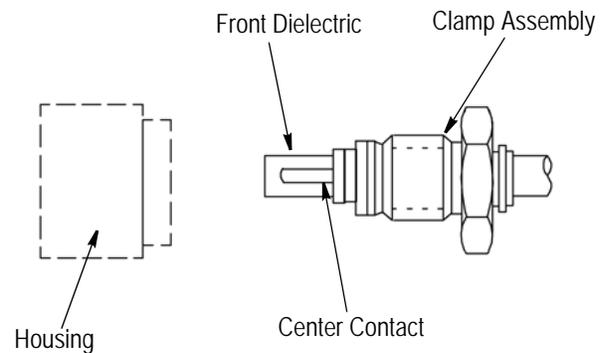

Figure 5
2. Place rear dielectric onto cable inner conductor as shown in Figure 5.
1. Assemble front dielectric onto center contact as shown in Figure 5.